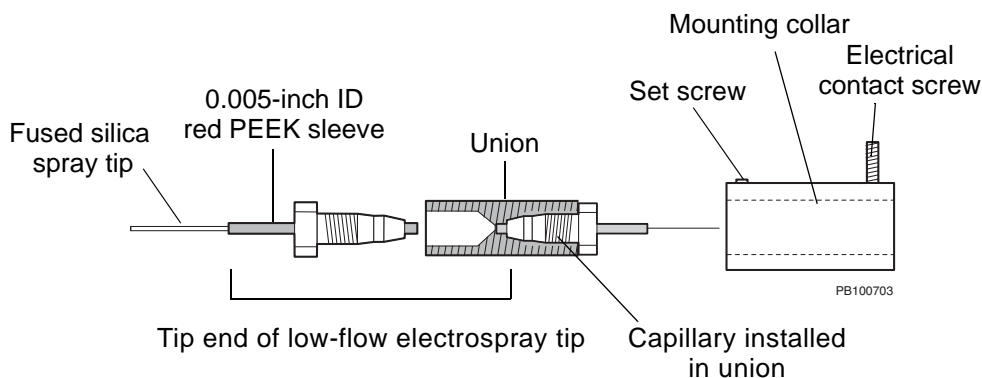

Figure 6-7 Installing Fused Silica Tip in the Low-Flow Electro spray Spray Tip
1. Place a ferrule and nut on the square-cut end of the 3/4-inch length red PEEK sleeve (Figure 6-7).